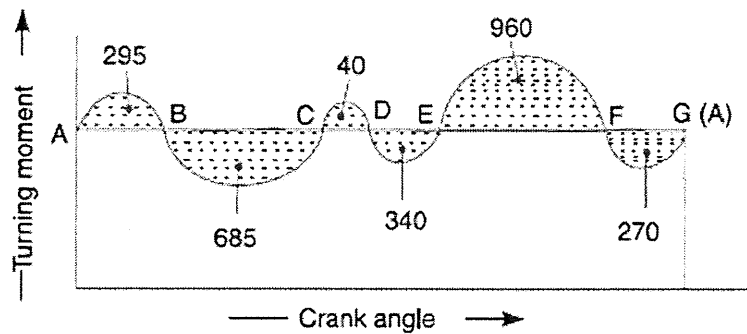

Figure 6
- c) The turning moment diagram for a petrol engine is drawn to the following scales: Turning moment, 1 mm = 5 Nm; crank angle, 1 mm = 3° horizontally shown in Figure 6. The turning moment diagram repeats itself at every half revolution of the engine and the areas above and below the mean turning moment line taken in order are 295 mm², 685 mm², 40 mm², 340 mm², 960 mm², 270 mm² when the engine is running at a speed of 600 rev/min. If the total fluctuation of speed is not to exceed $\pm 1.5\%$ of the mean, **determine** the necessary mass of the flywheel of radius 0.5 m.